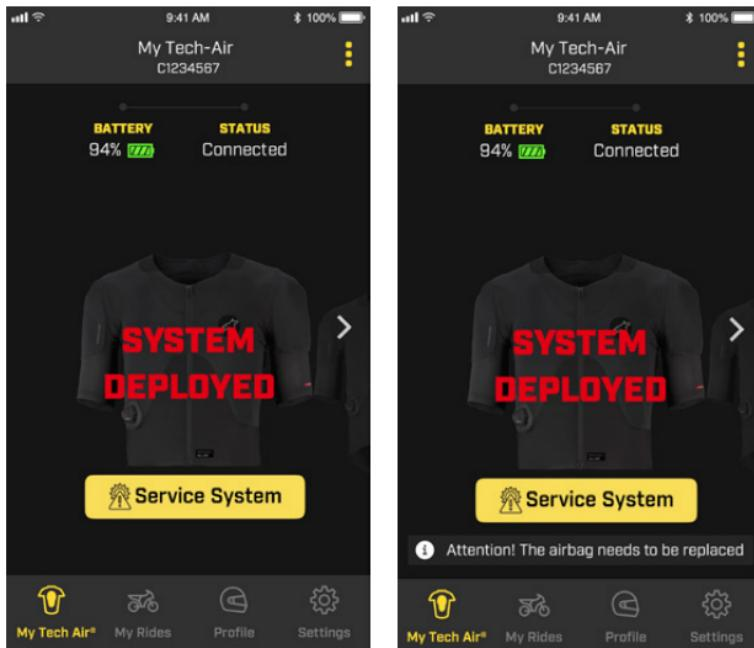

Figure 18: Deployed Tech-Air® System View (Left) and Airbag (11) Replacement Notification View (Right).
In the event of a System deployment and when no Gas Inflator (9) is available, the App will notify this status to the User by displaying the message "SYSTEM DEPLOYED" as depicted in Figure 18.